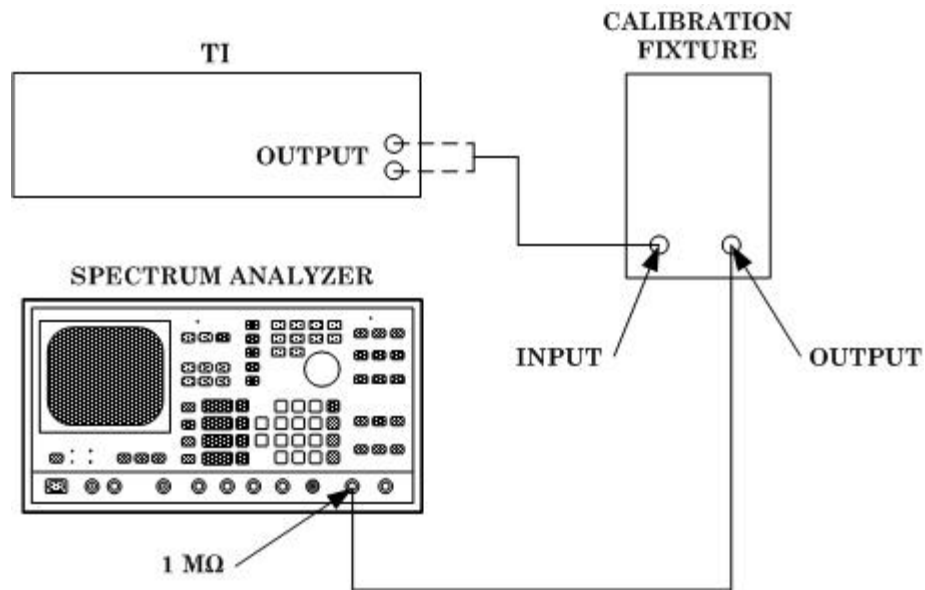

Figure 3. Total harmonic distortion
(1) Connect equipment as shown in figure 3 below.